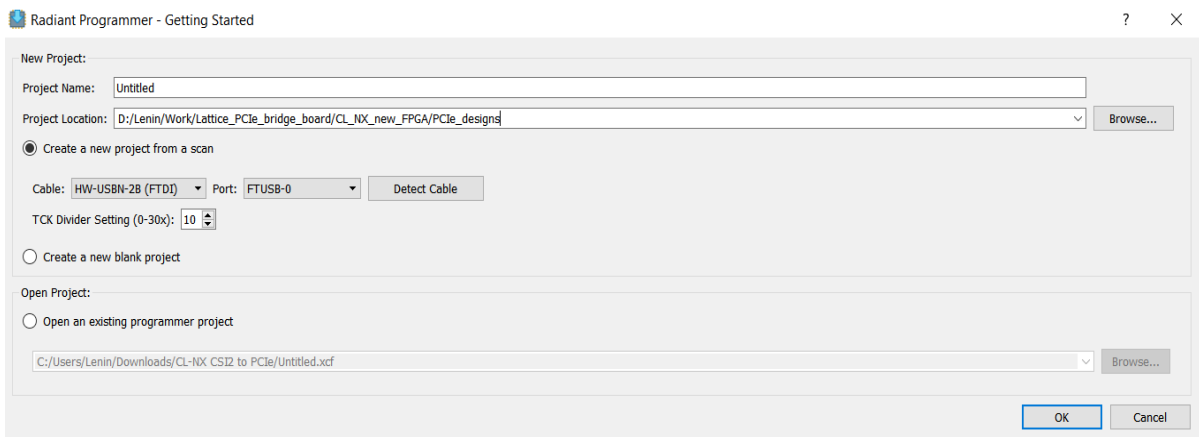

Figure 5.6. Creating a New Project from a Scan
1. Create a new project using the Lattice Radiant Programmer software. In the **Getting Started** dialog box, input the **Project Name** and **Location** as shown in Figure 5.6.